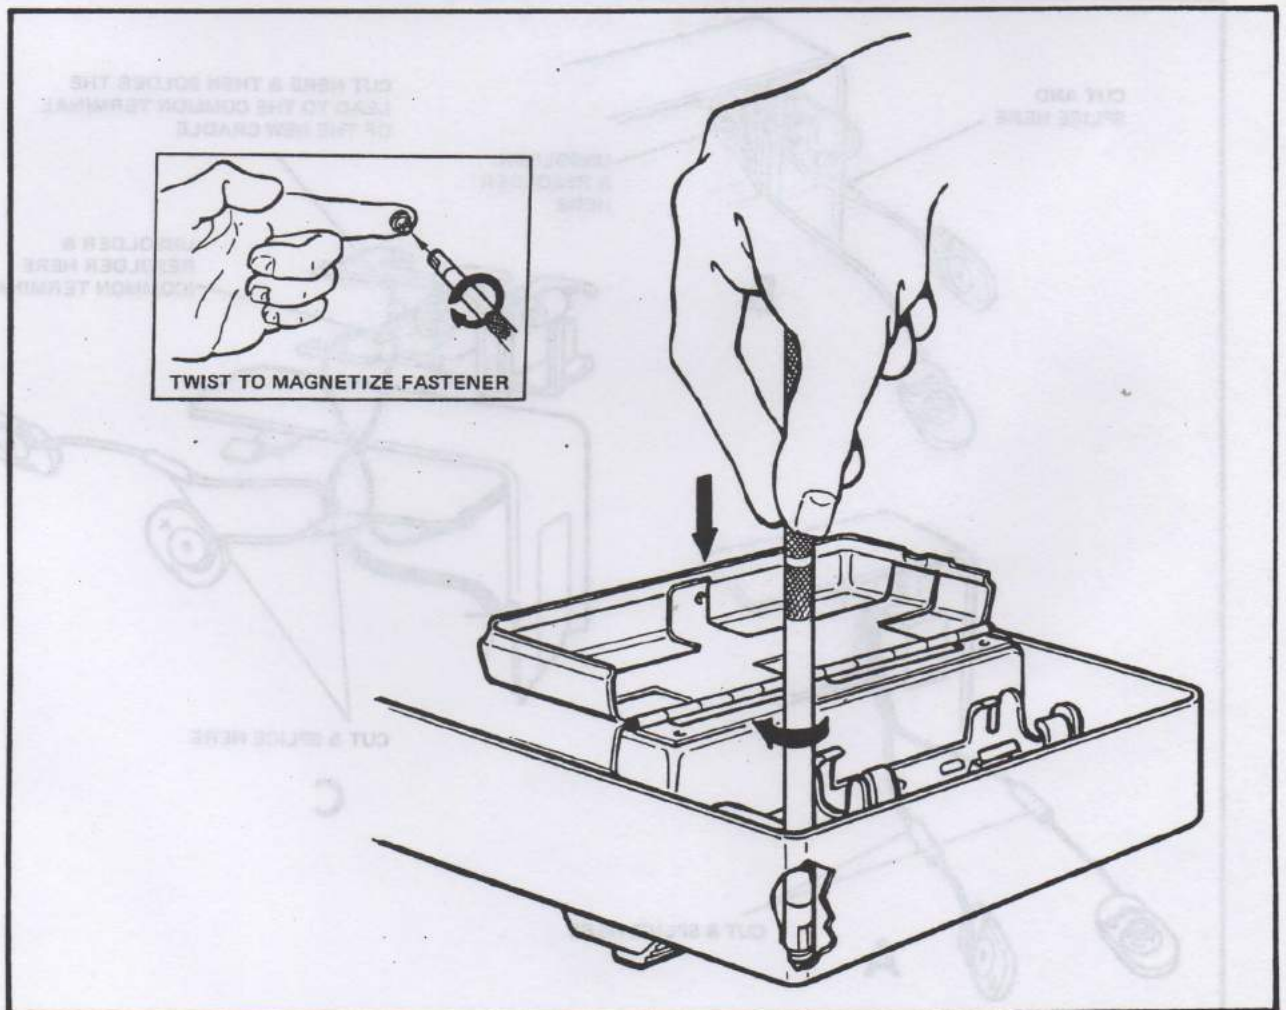

FIG. 5.29 INSTALLING THE LEFT HAND GUARD
2. Secure the guard with the fasteners using tool #CR11008 (Figure 5-29).